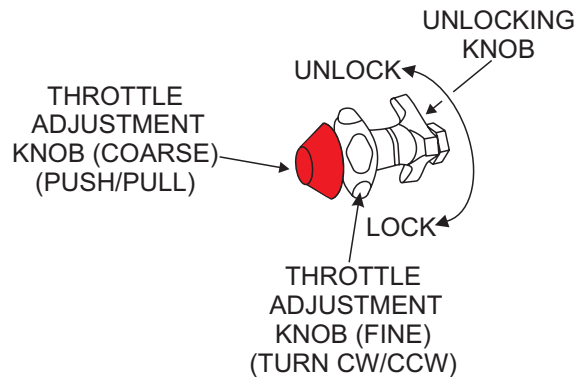

Figure 26. Throttle Control Knob (Un-locking)
- Unlock the throttle cable. To unlock the throttle cable, turn the inner most knob counter clockwise (Figure 26.)
- Turn the unlocking knob (figure 26) clockwise to lock engine RPM in place.